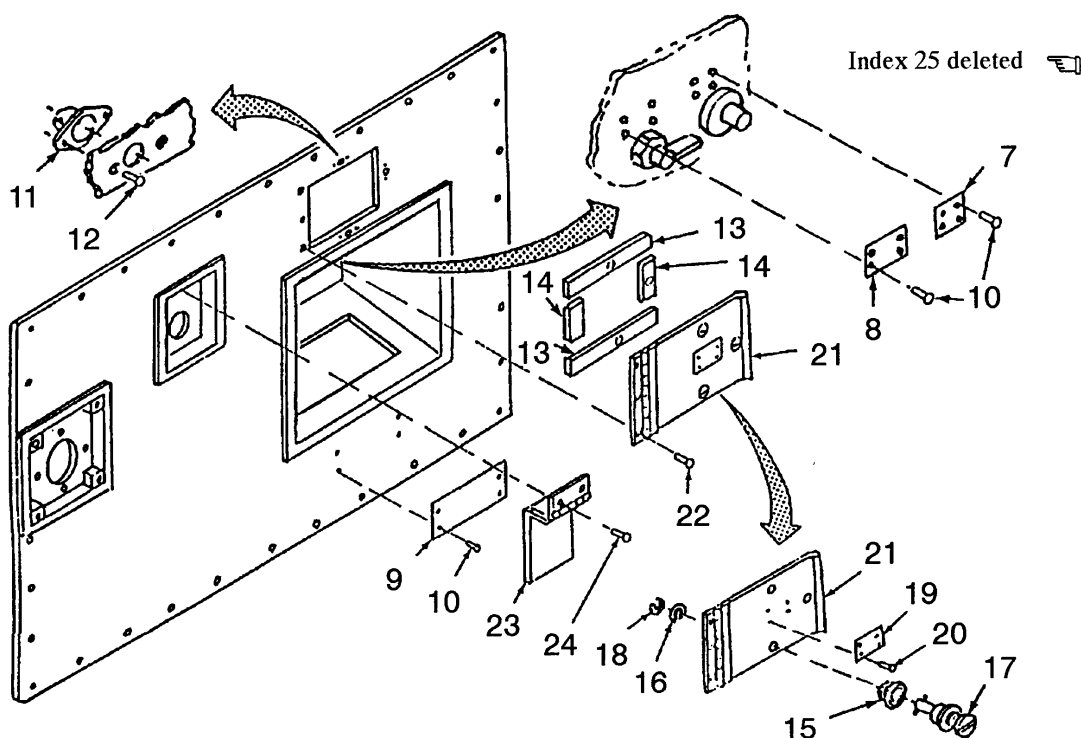

Figure 4-19. Rear Panel Assembly (Sheet 2 of 3)
d. Assembly -continued (Refer to Figure 4-19)
- (12) Hold selector valve (27) in left hand with the half moon shaped handle stop on top.
- (13) Place selector valve (27) in soft faced vise and install elbows (28) and (29) and straight connector (30). Remove selector valve (27) from vise.
- (14) Install selector valve (27) with half moon shaped handle stop on top and nut (31).
- (15) Install handle (32) and secure with screw (33).
- (16) Install quick-disconnect coupling (34) and nut (35).
- (17) Install tubing (36)(Item 77, App F) on elbow (29) and quick-disconnect coupling (34).